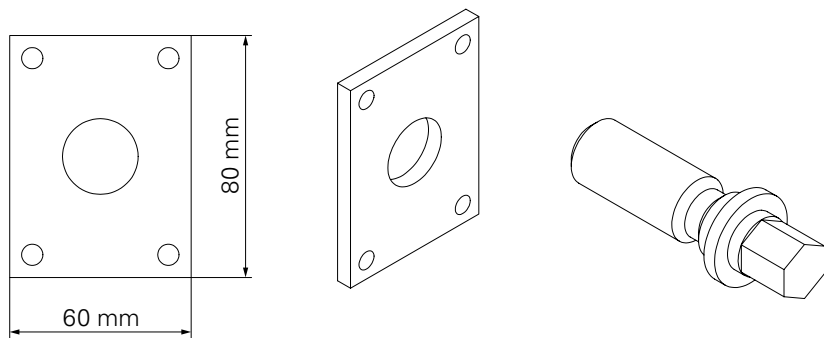

Fig. A2.06
- Anchor Positioning Plate M24 with Advancing Bolt M24 (Fig. A2.06)